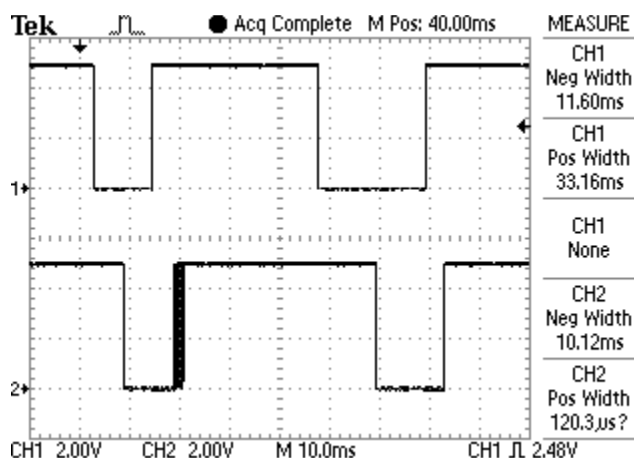

Figure 2. Actual Rotary Encoder waveform
waveforms are not perfectly square with the 50% duty cycles shown. Figure 2 shows a captured trace from a real rotary encoder that is more representative of what you will typically find. Note that the two 'scope channels (1 and 2) represent the encoder outputs A and B, respectively. The ch 1 (A) waveform leads the ch 2 (B) waveform, which usually means that the shaft is turning in a clockwise direction.